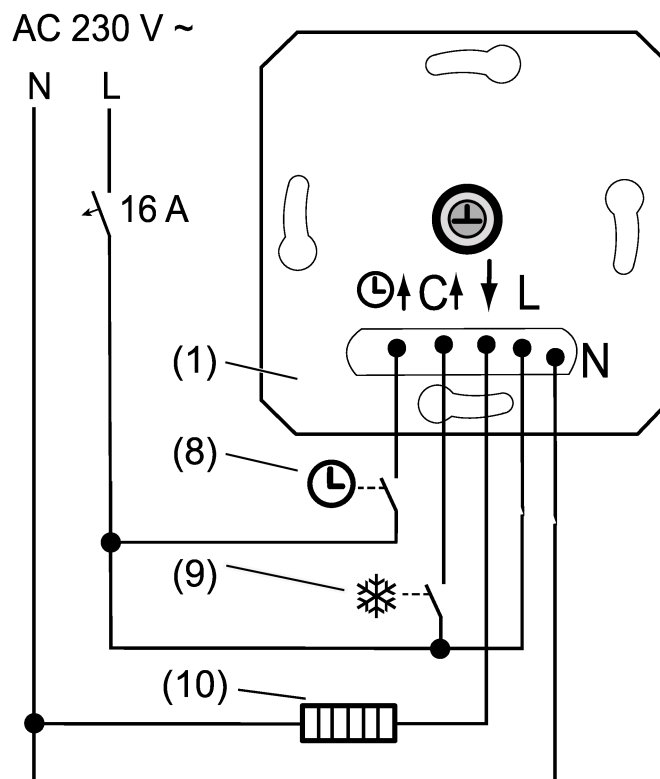

Figure 2: Connection example of the insert
- Connect the electrical heating device (10) or cooling device to the insert (1) according to the connection diagram (see figure 2). Observe conductor cross-sections (technical data)
- Optionally, connect the input ☉ via a switching contact (8) of a central clock (lowering mode) or connect the switching contact of a presence detector or switch (presence mode).